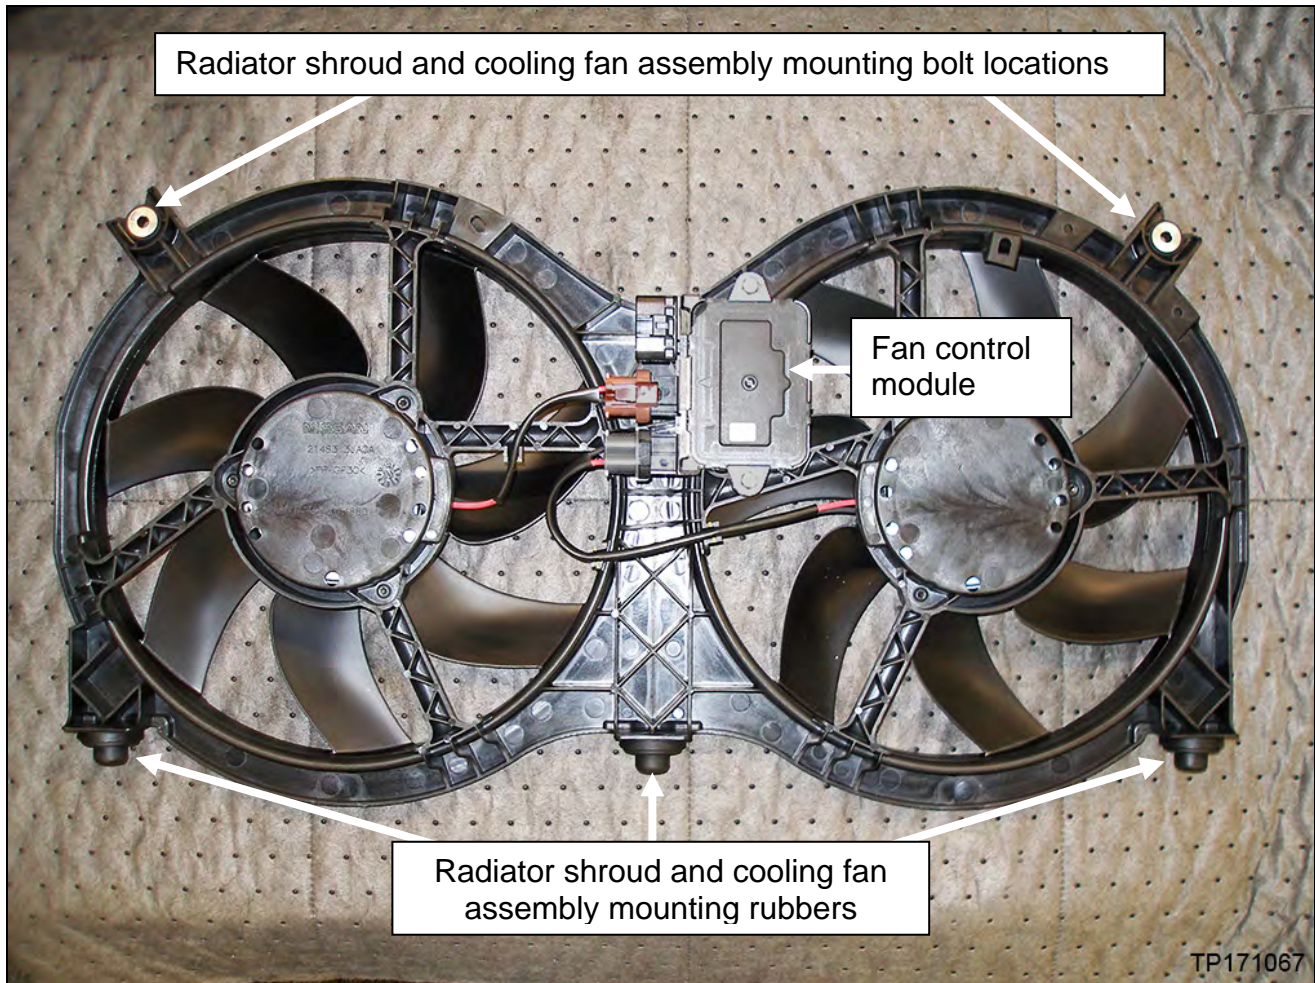

Figure 18
28. Remove the radiator shroud and cooling fan assembly mounting bolts (refer to Figure 18 on the next page for bolt location).